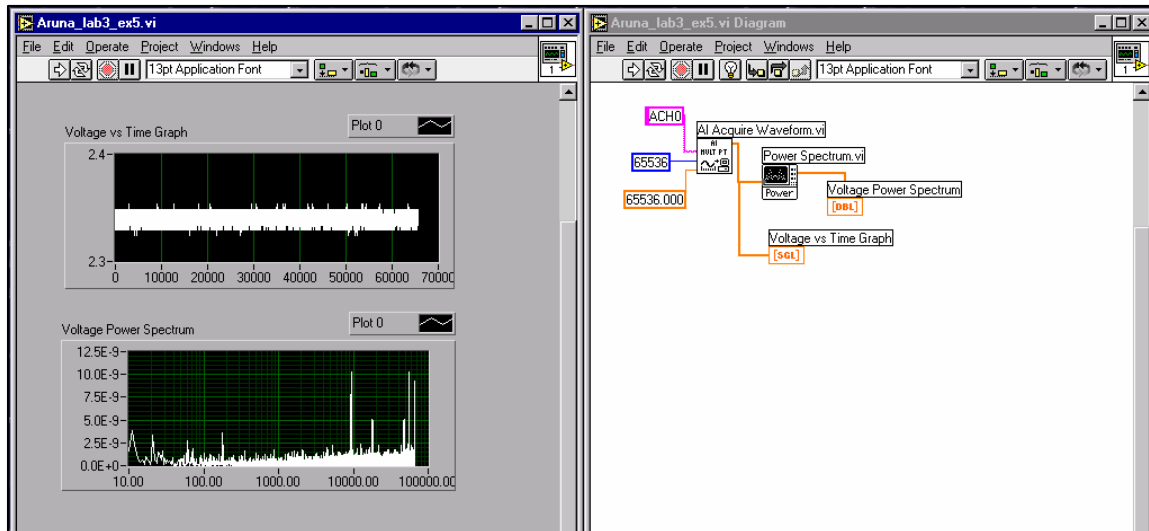

Figure 14: Front panel and block diagram for `yourname_lab3_extra.vi`.
21. Run this VI a few times and observe the resulting graphs. While oscillating your ruler at 1Hz, run the VI to see what the power spectrum looks like. For your lab report, obtain printouts as shown in Figure 14 above. (The signal displays must be included on your graphs).
22. In the **channel (0)** terminal of the AI Acquire Waveform VI, *replace* ACH0 with ACH1 to indicate that you will sample using Analog Input Channel 1. Run this VI a few times and observe the resulting graphs. While oscillating your ruler at 1Hz, run the VI to see what the power spectrum looks like. For your lab report, obtain printouts as shown in Figure 14 above. (The signal displays must be included on your graphs).
23. For the VI's you wrote in this experiment, provide a printout that shows the front panel and block diagram, similar to Figure 14 above. You should include four such printouts (i.e., non-filtered and stationary, non-filtered and oscillating, filtered and stationary, filtered and oscillating). Describe what you saw on both the *Voltage Vs Time* graph and the *Voltage Power Spectrum* graph. In particular, compare power spectra for the stationary ruler and the oscillating ruler. Also compare power spectra for filtered and unfiltered voltages.